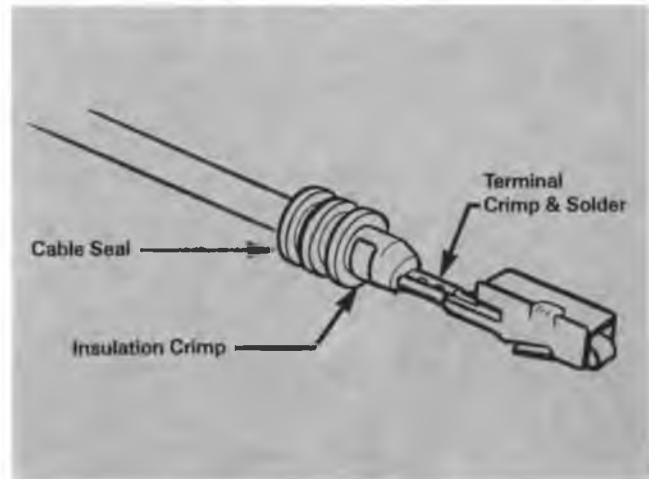

Figure 6-5 Connector (C4A) Terminal
- Step 4 Crimp the new terminal over the wire (core crimp) as shown in Figure 6-5.
- Step 7 Crimp the grips at the end of the terminal around the cable seal and insulated wire as shown in Figure 6-5. Apply slight pressure for this crimp. (For splicing wires, follow the directions given in the Division Service Manual.)